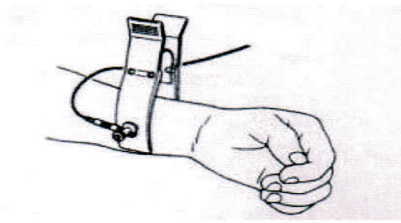
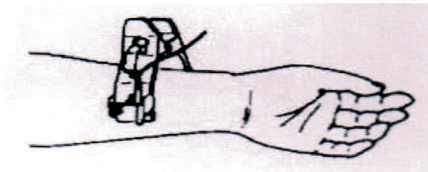
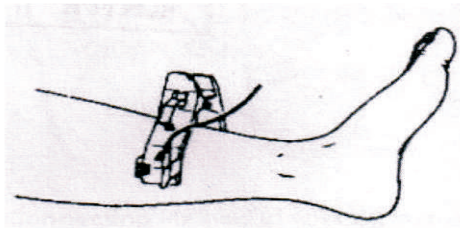
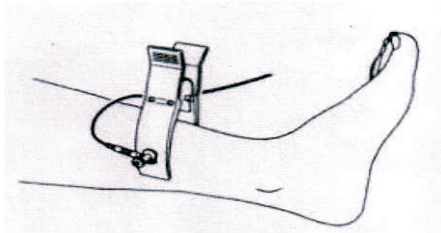

Figure 3-3
Figure 3-4
Figure 3-5
Figure 3-6
To connect the limbs' electrodes several centimeters to Right finesse (R) (Figure 3-3), left finesse (L) (Figure 3-4) , left foot wrist (F) (Figure 3-5) , right foot wrist (N) (Figure 3-6)